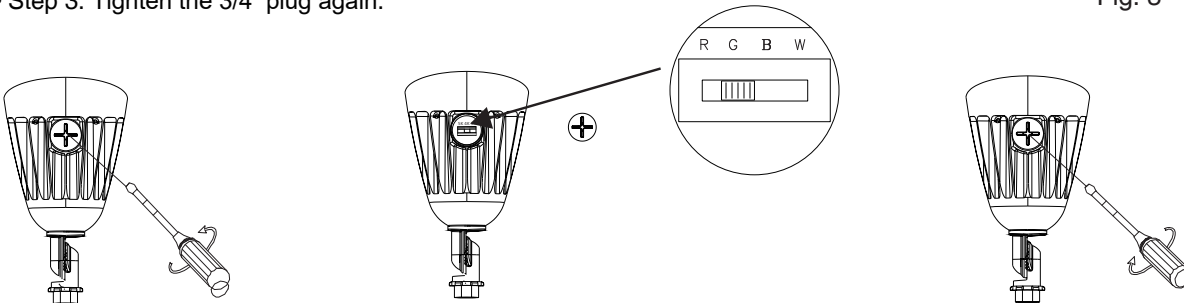

Fig. 5
- Step 2: Adjust the integrated switch for RGBW to the desired setting. (Fig 5)